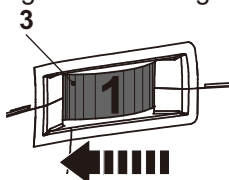

Fig. 8
1. Limit the maximum speed using the speed dial (3).
2. Turn the speed dial (3) left (as seen from the operators position) to increase the maximum speed (Fig. 8). A higher setting is suitable for sanding with fine-grained sanding belts to achieve a fine finishing.